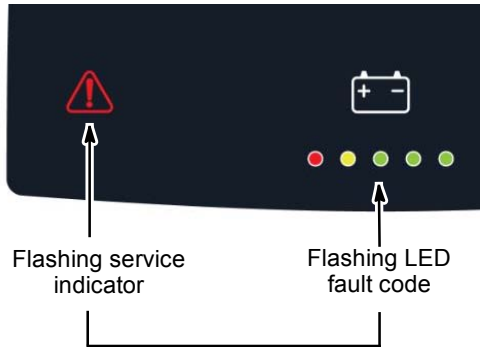

FIG. 100
4. Remove the solution tank filter and clean screen after every 50 hours of use (Figure 100). Solution filter is located under machine at rear. Drain solution tank before removing filter.